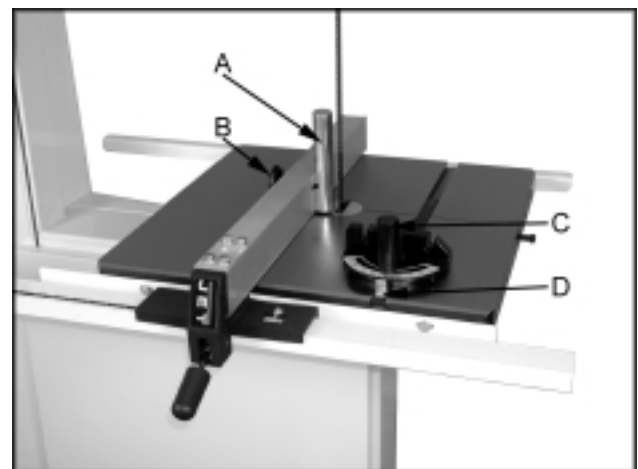

Fig. 12
For resawing attach the post (A, Fig. 12) to fence with the lock knob (B, Fig. 12). There is a slotted hole in the fence that will accommodate the resaw kit. Position the post so that it is centered with the front edge of the blade. The resaw guide will give you a taller, single point contact surface during resawing.
3. If the miter gauge is not square to the blade loosen the lock knob (C, Fig. 12) and adjust to the proper setting. Tighten the lock knob.
4. If the pointer is not at 90 degrees, loosen the screw (D, Fig. 12) holding the pointer and move the pointer to 90 degrees.